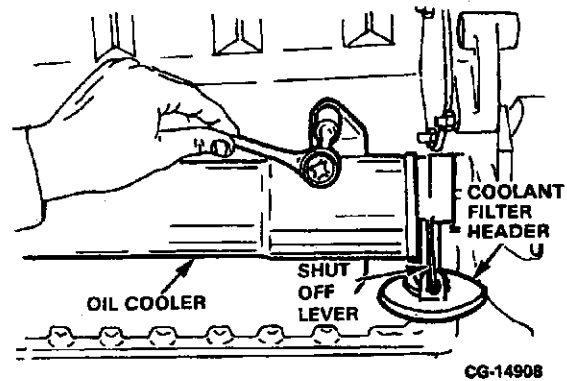

Figure 9.25. Remove Oil Cooler Mounting Bolts
2. Loosen and remove the four "patch" bolts and washers which secure the oil cooler and coolant filter to the crankcase. Refer to Figure 9.25.
THE COOLANT FILTER HEADER IS EQUIPPED WITH A SHUT-OFF VALVE WHICH IS ACTIVATED BY A SHUT-OFF LEVER (FIGURE 9.25). WHEN THE MANUALLY OPERATED SHUT-OFF LEVER IS IN THE VERTICAL POSITION, THE VALVE IS OPEN AND THE COOLANT FILTER IS OPERATIONAL. WHEN THE LEVER IS IN THE HORIZONTAL POSITION THE VALVE IS CLOSED AND THE COOLANT FILTER IS BY-PASSED. BE SURE THE LEVER IS IN THE VERTICAL POSITION DURING ENGINE OPERATION.